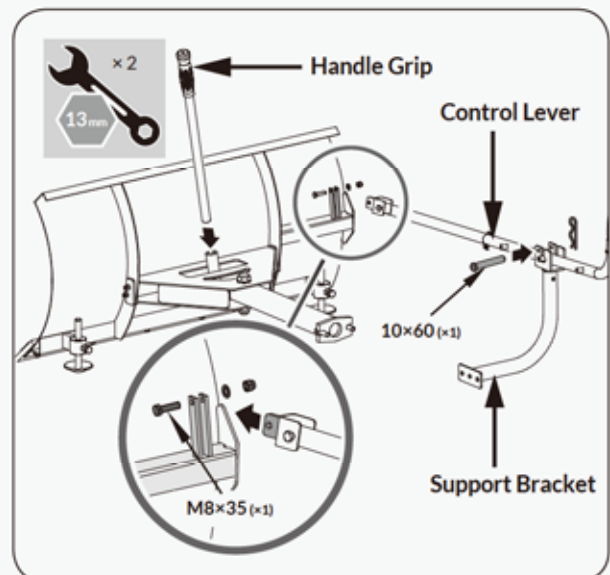

Figure 2d
6. Secure the support bracket into the control lever with pin 10×60 and bridge clip. (See **Figure 2d**)